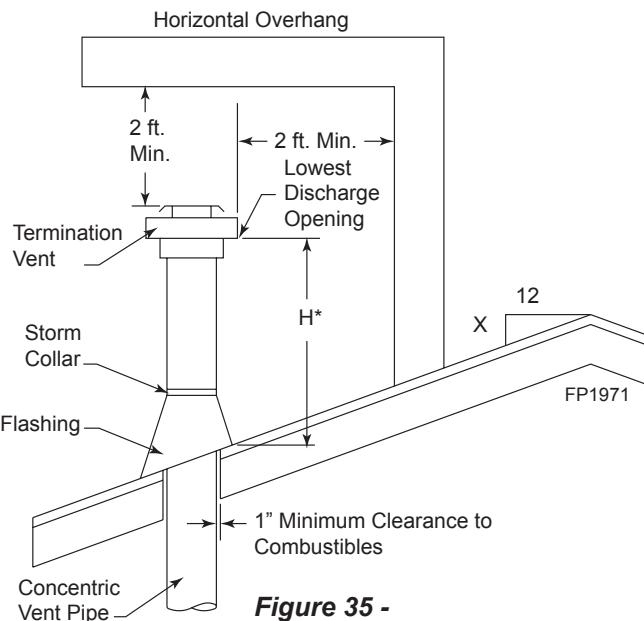

Figure 35 -
- For the minimum height of the vent above the highest point of penetration through the roof refer to Page 24, *Figure 35*.
6. Continue to add pipe sections until the height of the vent cap meets the minimum requirements as shown in *Figure 35*.